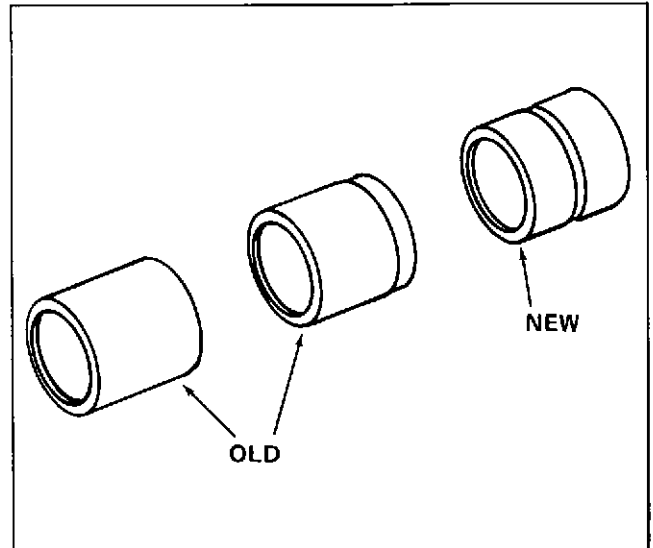

Fig. 8-6, (F5149). Old and new design of the idle plunger buttons.
**Note:** When you assemble the governor spring assembly, use the new improved plunger, Fig. 8-6.